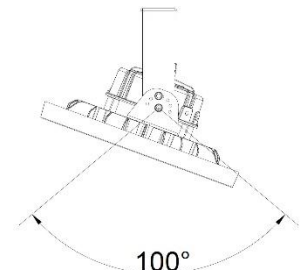

Figure 6
- 11: Set fixture to proper angle and tighten angle adjustment screws. (Figure 6)
- 8: Set fixture to proper angle and tighten angle adjustment screws. (Figure 6)